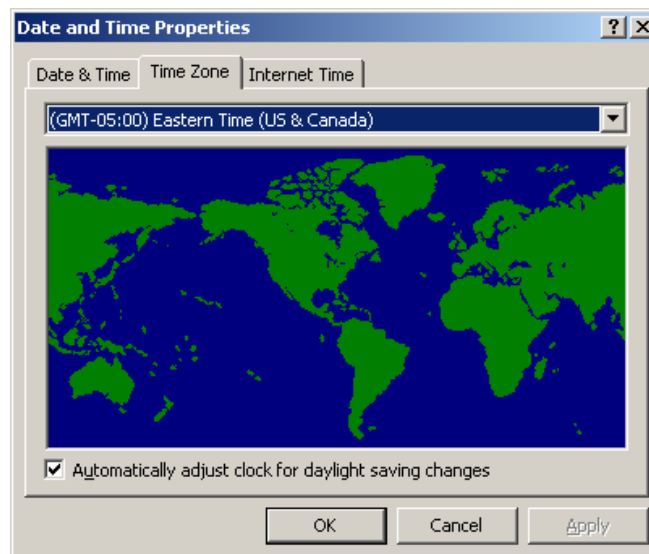

Figure 1-118. Date and Time Setting Dialog
3. Click on the **Time Zone** tab (Figure 1-118).